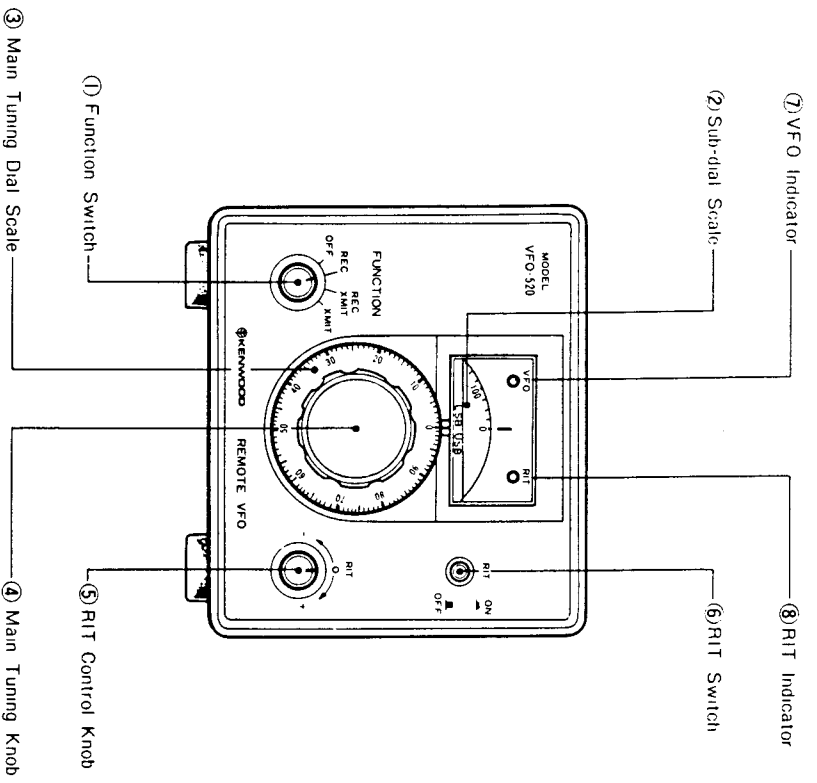

Fig. 2 Front Panel View
2.1 FRONT PANEL CONTROLS (See Figure 2)
FUNCTION SWITCH (1 on Figure 2)
SUB-DIAL (2 on Figure 2)
DIAL SCALE (3 on Figure 2)
MAIN TUNING KNOB (4 on Figure 2)
RIT CONTROL (5 on Figure 2)
RIT SWITCH (6 on Figure 2)
VFO INDICATOR (7 on Figure 2)
RIT INDICATOR (8 on Figure 2)